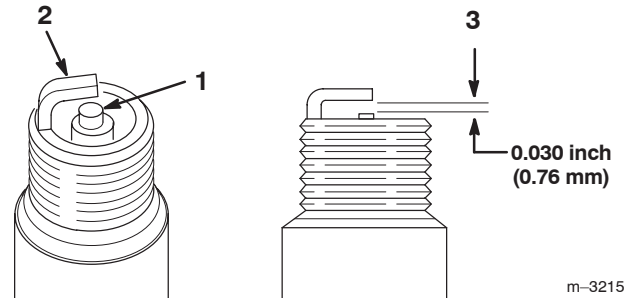

Figure 43
1. Look at the center of the spark plug(s) (Fig. 43). If you see light brown or gray on the insulator, the engine is operating properly. A black coating on the insulator usually means the air cleaner is dirty.
2. Check the gap between the center and side electrodes (Fig. 43). Bend the side electrode (Fig. 43) if the gap is not correct.